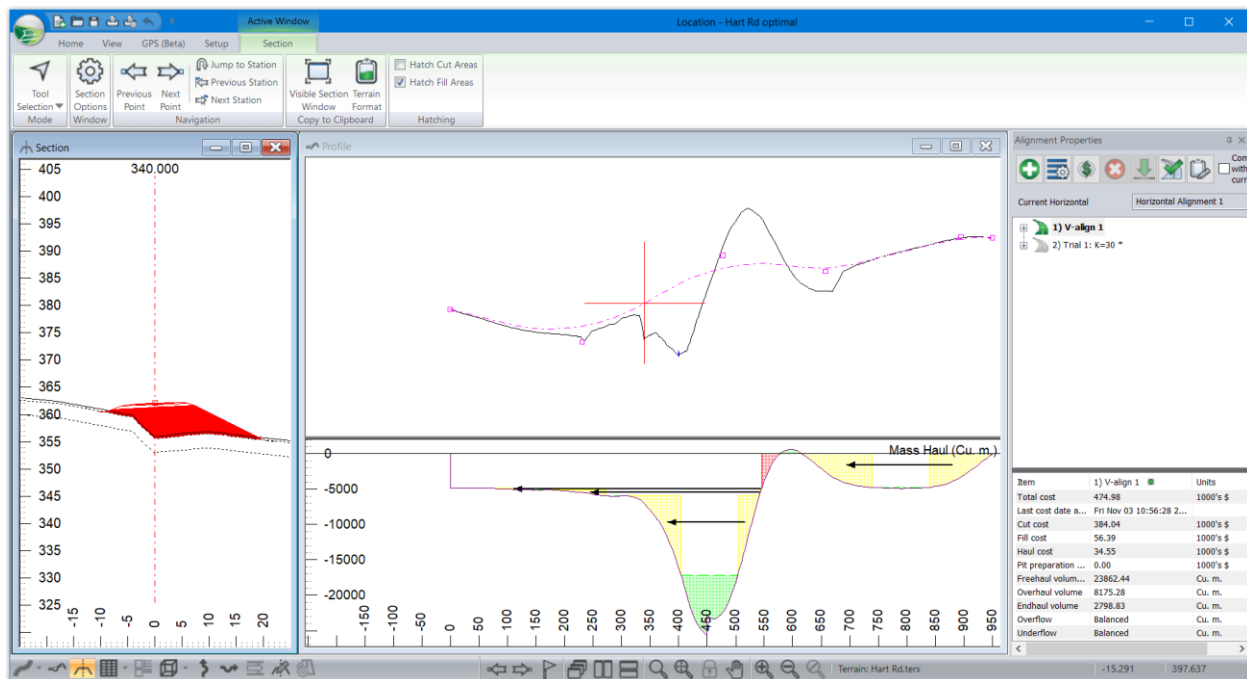

Figure 1 – Section View, Vertical Alignment and Alignment Properties Arranged Vertically
3. Bring up a section view . *View* | *Tile Vertically* button. Arrange your windows to look as they do in Figure 1.